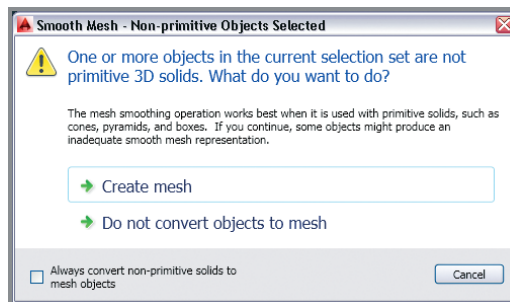

FIGURE 17.29 Mesh warning dialog box
3. Select the ribbon's Mesh tab, and select the Smooth Object tool on the Mesh panel. Select the ventilation tower solid, and press Enter. Click Create Mesh in the warning dialog box that appears (see Figure 17.29). The towers gain a blocky appearance as the curvilinear solid is converted into a polygonal mesh.